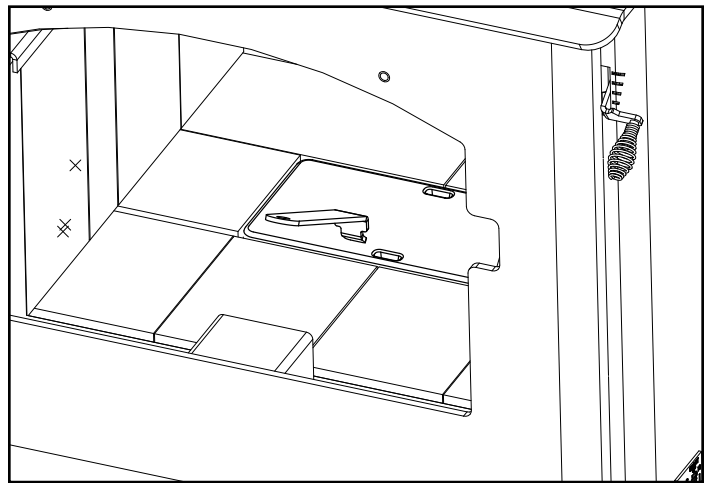

Figure 16.2
2. Remove cast iron cap from inside the firebox using tools supplied. Clean ash through the ash removal system channel into the drawer below (**Figure 16.2**).